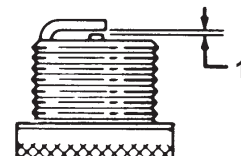

Figure 33
6. Set the gap between the electrodes on the spark plug at 0.030 in. (0.76 mm) as shown in Figure 33.